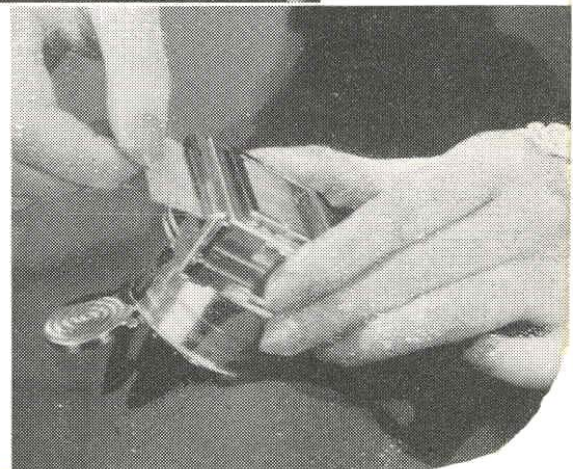

FIG. 2.
Press the lugs (16) at the side of the hinged back inwards, and at the same time pull the end of the Envelope which protrudes through the opening at the top of the camera ; (Fig. 2) pull it out to the point at which it stops. The plate or film is now uncovered in the camera, ready for exposure.